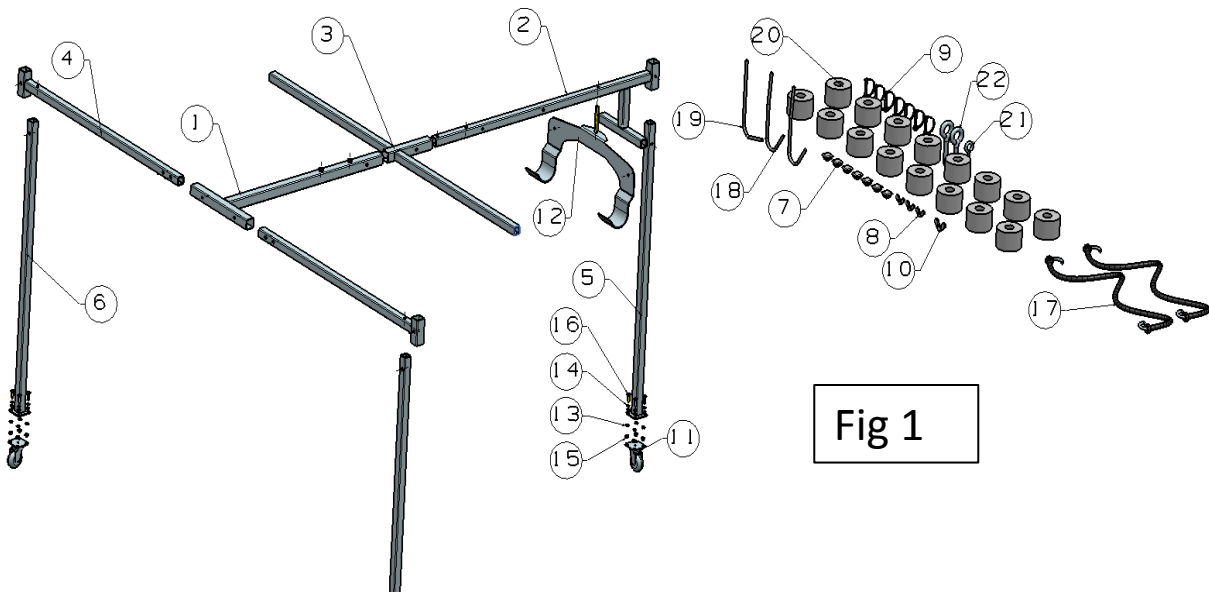

Fig 1
**Step 1:** Unpack and lay out all components according to the exploded view. Fig 1+2